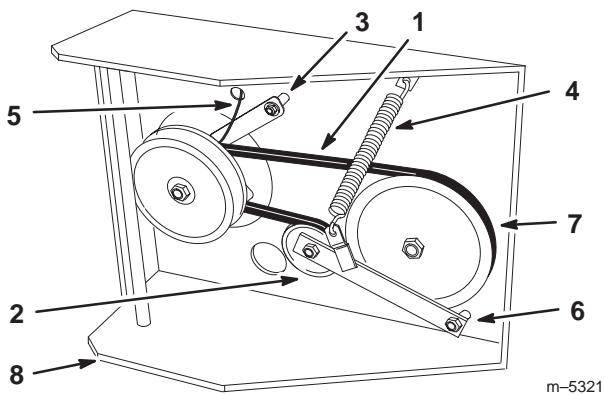

Figure 66
6. Disconnect clutch retainer from the engine deck (Fig. 66).
7. Unhook tension spring from side of frame (Fig. 66).
10. Torque pivot bolt to 35-40 ft-lb (47-54 N·m). Install tension spring between idler arm and frame bracket (Fig. 66).
11. Install clutch retainer to the engine deck (Fig. 66).